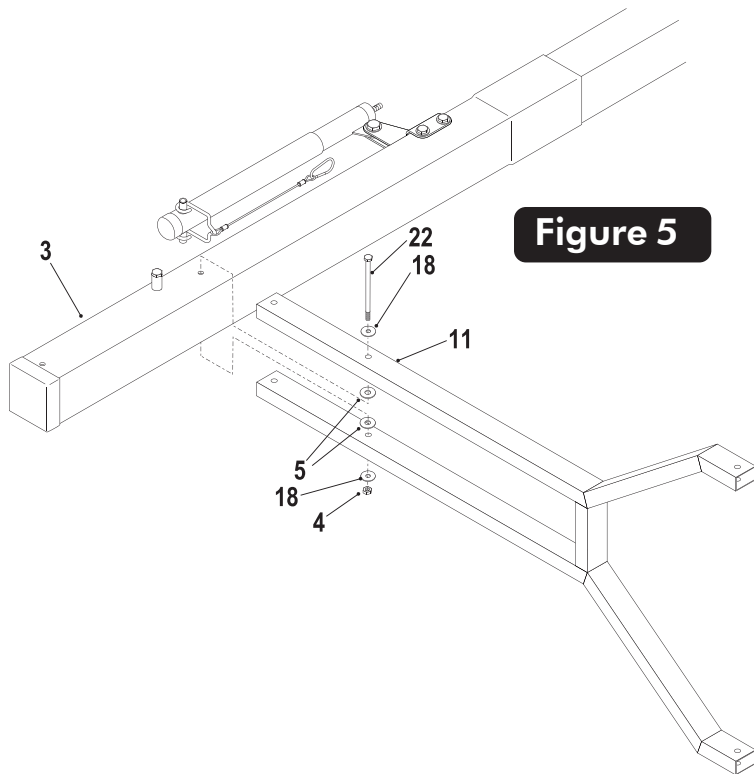

Figure 5
8. Attach lower arms (#11) to Top Pole (#3), as shown in Figure 5, using a hex bolt (#22), two flatwashers (#18), two plastic washers (#5) and lock nut (#4).